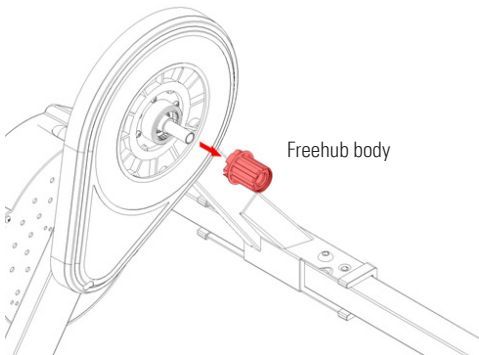

Figure 2
3. With the cap removed you will now be able to slide the freehub body off the spindle by gently pulling outwards, in some cases it may require rotating the freehub body counter clockwise to disengage the pawls. See figure 2.